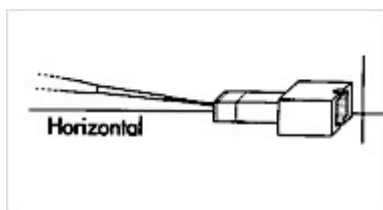

Figure 4: Remove excess running buffer.
16. Immediately, holding the GeneCAPSULE™ horizontal, insert the provided pipette tip, until you reach the gel piece and remove the free TAE buffer from the Gel-PICK™ (Figure. 4). Any buffer left in the Gel-PICK™ will be extracted with the eluted DNA and will result in an increase in the elution volume and dilution of your sample.